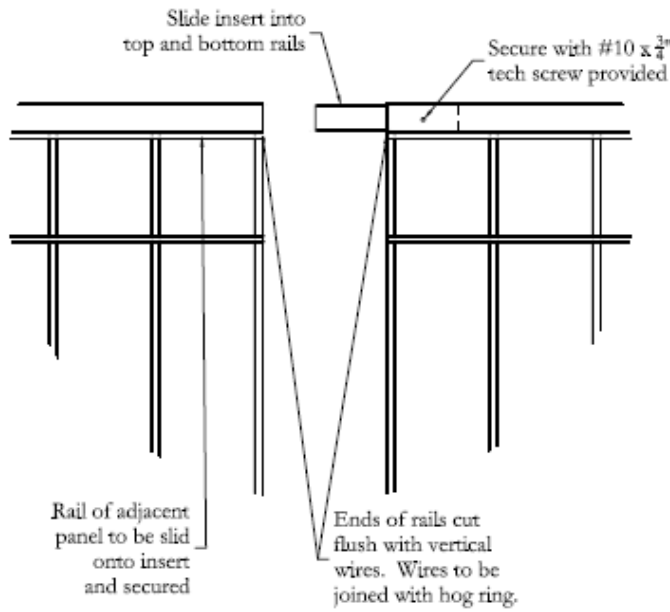

FIGURE 2
5. **For Passby and Retrofit Systems** Fence sections will be joined through use of internal sleeves provided (See Figure 2) and fence sections secured to posts through the use of the 1 1/2” Tech screws provided (Predrilling may be necessary for some retrofit posts. Use 9/64 drill bit). If rails extend past end vertical wires, the ends of all rails should be cut off allowing verticals to abut and horizontal lines to be continuous (See Figure 2). These fence lines may be continued for as long a distance as the slope will permit